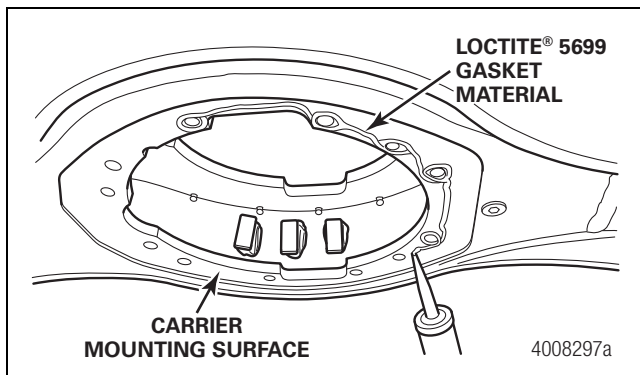

Figure 7.2
6. Apply a 0.25-inch (6 mm) continuous bead of Loctite® 5699 gasket material to the carrier mounting surface on the axle housing. Figure 7.2.